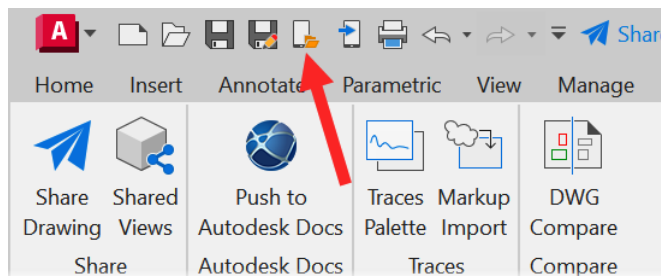

Figure 13.12: The Open from Web & Mobile icon on the QAT
4. If you were to return to the AutoCAD desktop application and click on the **Open from Web & Mobile** (*OPENFROMWEBMOBILE*) icon (see *Figure 13.12*) on the QAT, you can open the saved shared drawing from its new location.